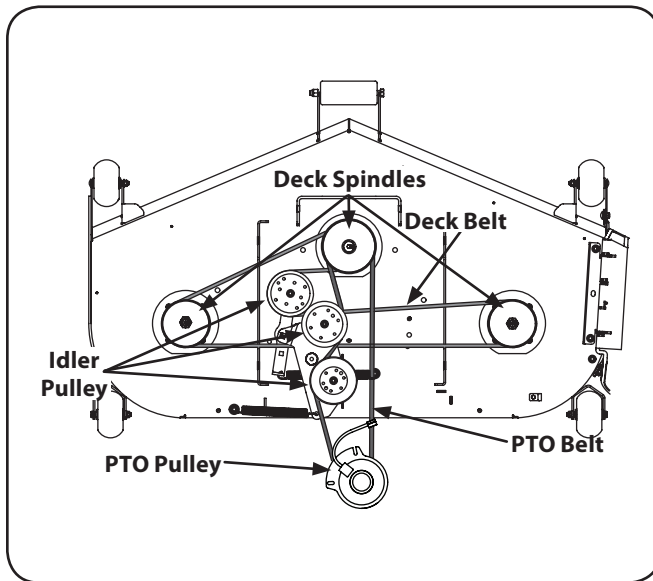

Figure 7-8
- Route the belt as shown in Fig. 7-8. After routing the belt around the PTO pulley, use a ½" drive in the idler pulley bracket and turn towards the front of the tractor to finish routing the belt around the idler pulley.
- Remove the belt from the deck spindles. Refer to Fig. 7-8.
- Install the new belt around the spindle pulleys as shown in Fig. 7-8 and reinstall the belt covers.